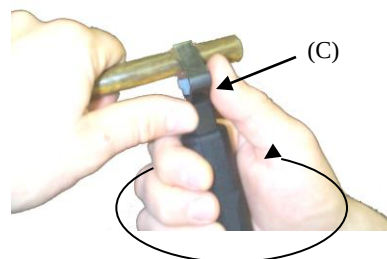

Fig.4
Step 4. (Fig.4) **For a longitudinal cut**, twist the tool handle 1/4 turn to the right and pull toward the end of cable.